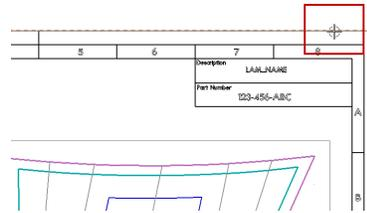

Figure 8–26
10. Select the border of the Plybook Template sheet in NX, as shown in Figure 8–26, and click .
13. Select the following text in the drawing, as shown in Figure 8–27: